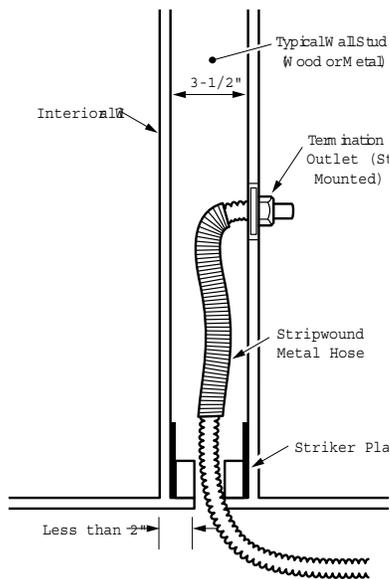

Figure: 4-9
c. Hardened steel striker plates provide the required protection through building structures as described above. Type RW Floppy steel conduit shall be installed as additional protection at termination points. (Figure: 4-9).